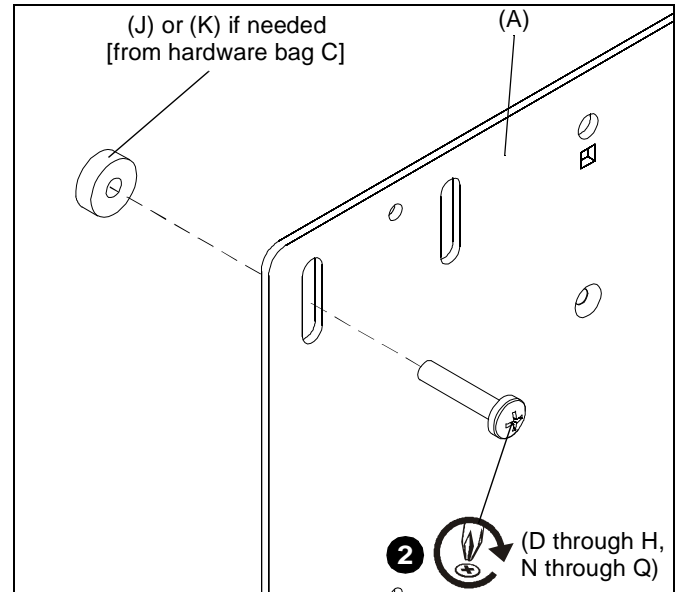

Figure 4
2. Using the same number of spacers (if required) and screws as holes in the display back, attach interface bracket to the display back. (See Figure 4)